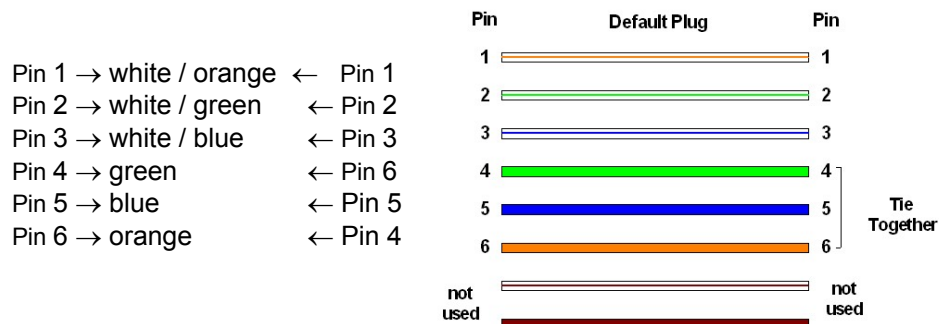

Figure 140: RJ-11 pinout for the override plug
3. Short (solder together) Pins 4 and 6 on the other end. Do not connect any other wires to anything. The result should be as shown in Figure 140.